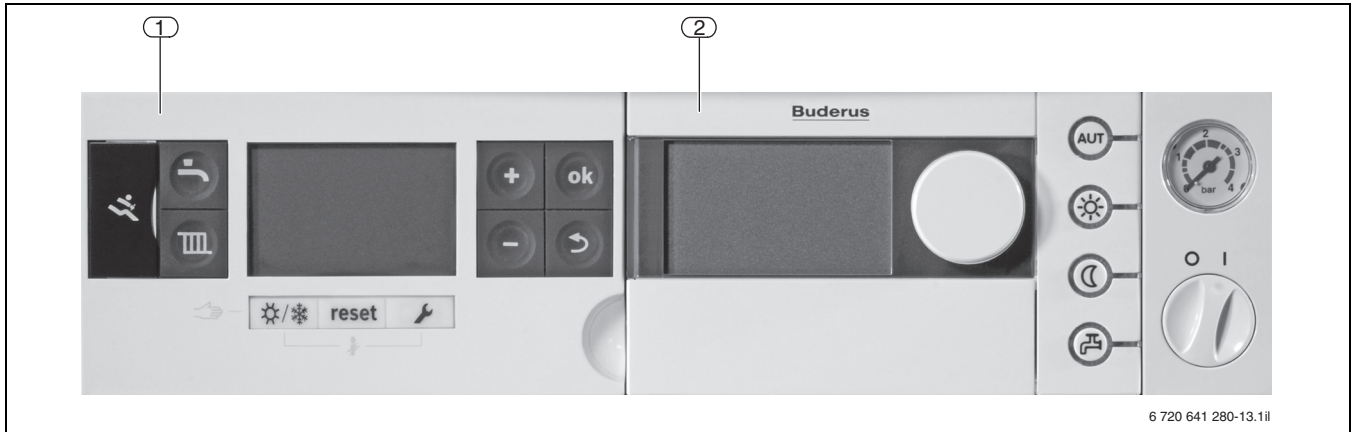

Fig. 38 Logamatic BC25 base controller with clipped-in RC35 programming unit
The Logamatic BC25 base controller (→ Fig. 38, pos. 1) is the standard programming unit of the GB172 gas condensing boilers with the Logamatic EMS control system. The Logamatic BC25 contains all required elements to make all standard settings on the heating system.